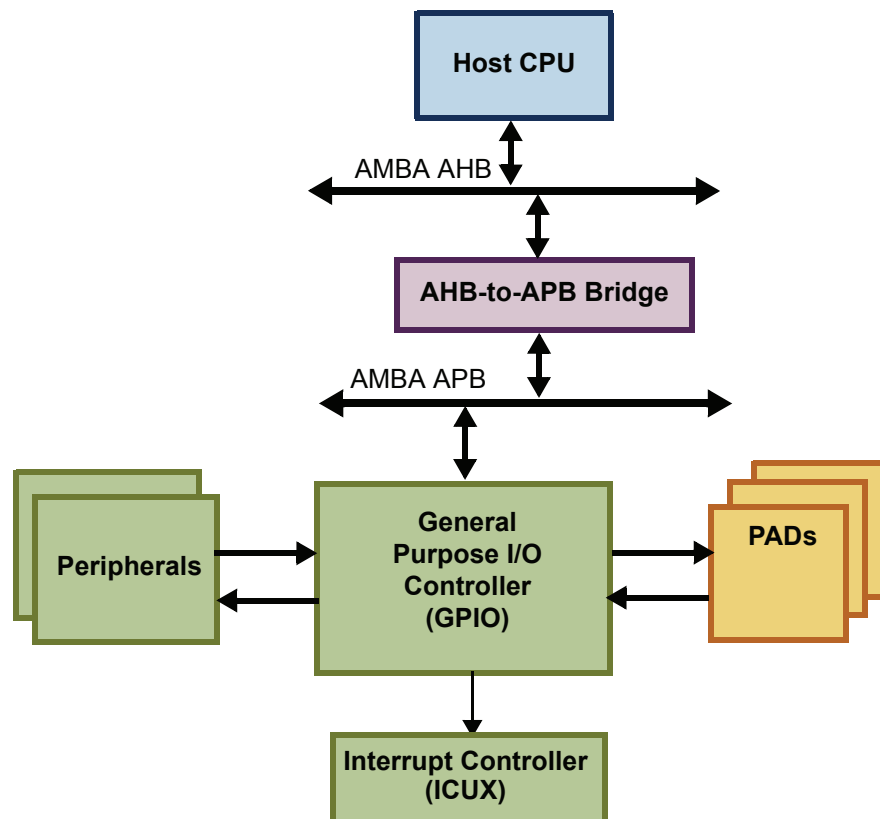

FIGURE 1: GPIO IN EXAMPLE APPLICATION SYSTEM
Figure 1 shows an example GPIO implementation in an AMBA system environment. The GPIO connects to surrounding logic through the following top-level interfaces:
- ▶ AMBA 2 APB – The host interface for transferring control/status information and data. In the example system shown in **Figure 1**, the GPIO APB interface connects to the host CPU's AMBA AHB interface through an AMBA AHB-to-APB Bridge. However, the GPIO can connect to the host CPU through any AMBA 2 APB compliant interface.
NOTE: The following blocks, shown in Figure 1, are also available within the National Semiconductor IP Library for AMBA Interconnect from IPextreme: AHB-to-APB Bridge and Interrupt Controller.